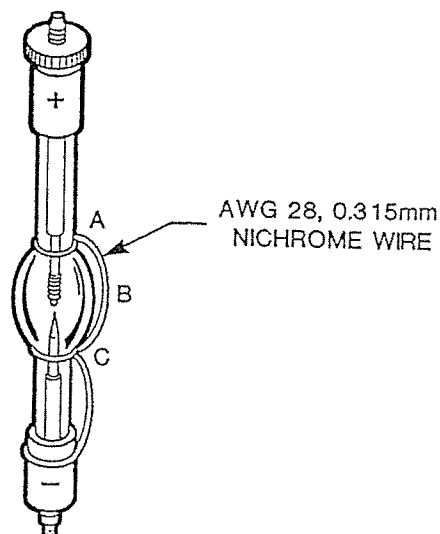

Figure 12: Starter wire installation on Xe lamp.
- Wearing cots or gloves loop the wire around the top of the lamp envelope, (A) in Fig. 12, twisting the end securely.
- Bring the wire down the side of the envelope, (B), nearest to the vacuum "fill/break off" mark. Keep the wire snug against the glass.
- Loop the wire around the snug of the envelope (C).